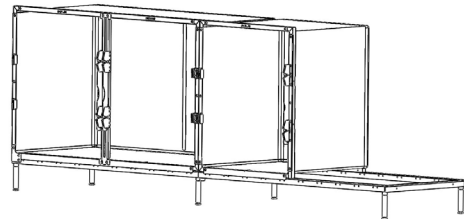

FIGURE 2.21 - Row 1, Cage 2
**STEP 9:** Lift and set the second cage into place on the platform. See FIGURE 2.21